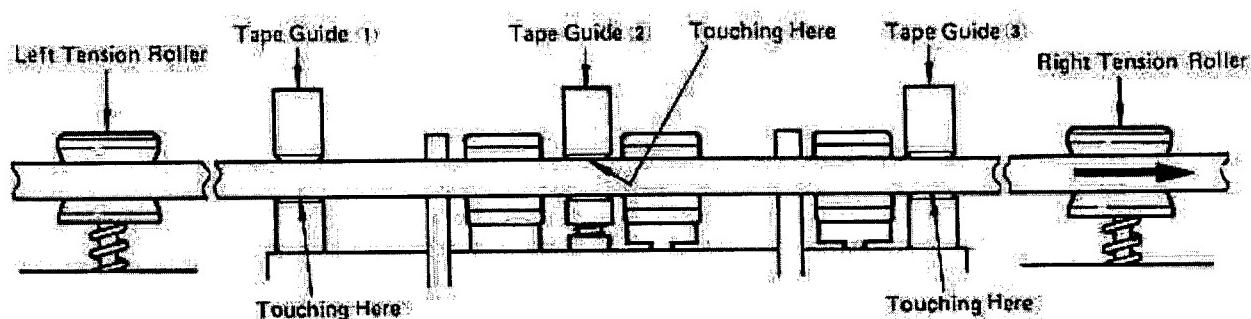

Fig. 9-5-4. Correct Tape Travel
1. Load a tape and run it in repro mode. Check that the upper edge of the tape is just touching the upper flange of the tape guide (2), and the lower edge of the tape the lower flange of the tape guides (1) and (3) (see Fig. 9-5-4).